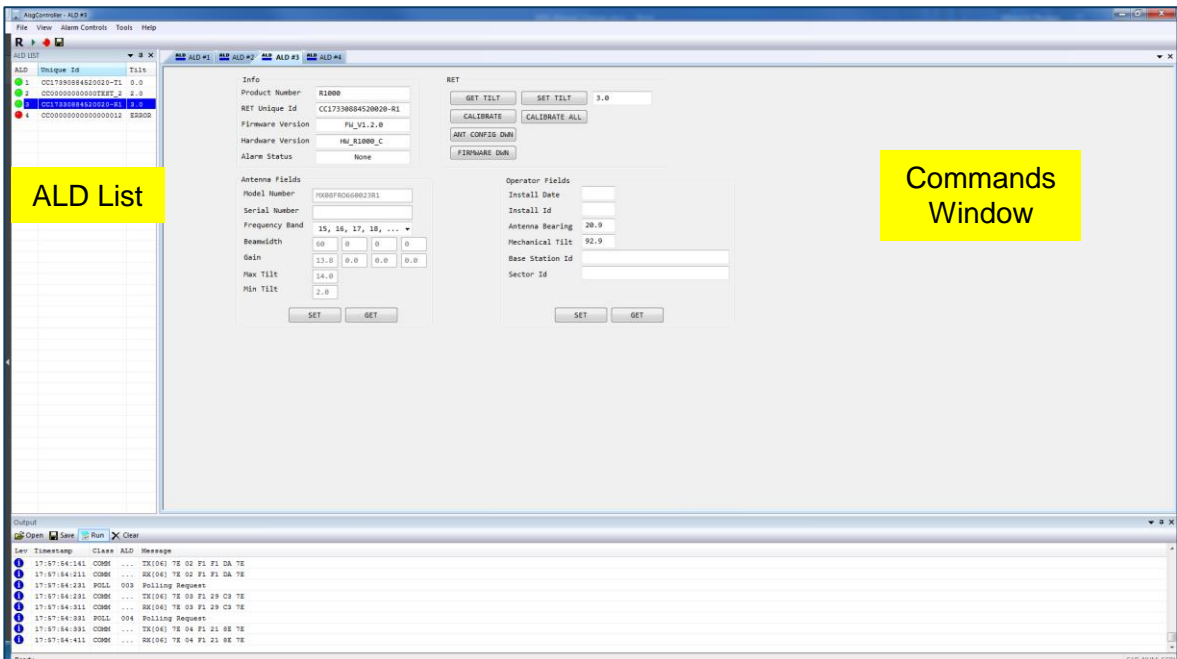
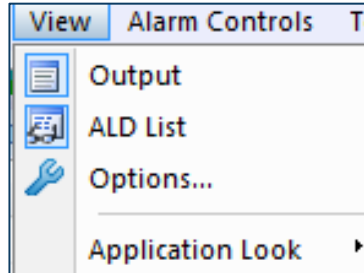

Fig. 8– Commands Window and ALD List with antenna information
Fig. 9 – Options selections
4. When you scan, the window will begin to populate, as represented in *Figure 8*.
5. If you accidentally close the ALD List or Output windows, or change it to where it no longer displays like *Figure 8*, go to **View** and select **ALD List** or **Output**. See *Figure 9*.